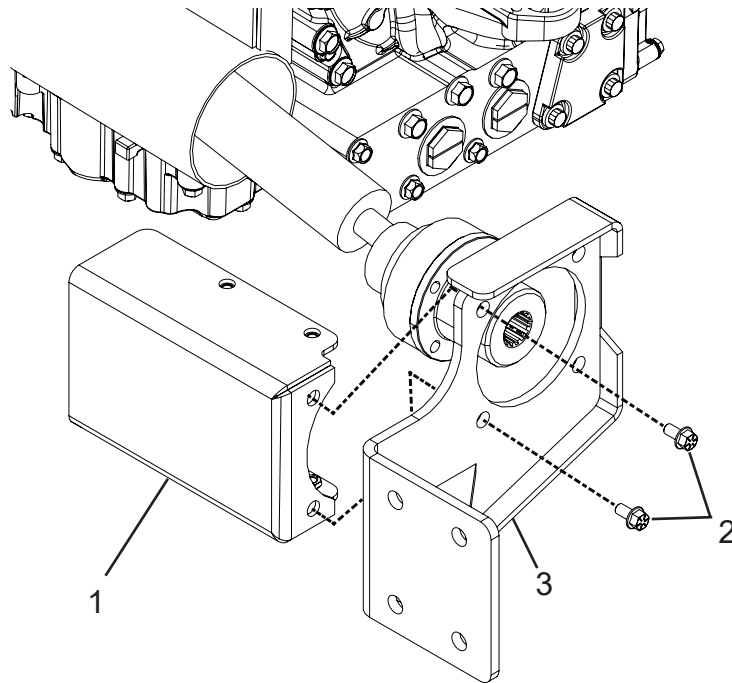

Figure 17
15. Using appropriate wrenches, reinstall the pump mount cover (Figure 17, Item 1) using the retained hardware (Figure 17, Item 2) to the pump mount support plate (Figure 17, Item 3).